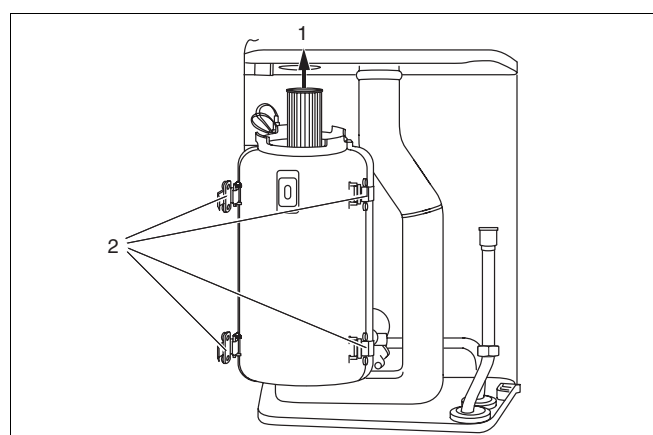

Fig. 47 Remove burner and release retaining clips
- Remove burner by pulling upwards through the opening (fig. 47, item 1) and release the four retaining clips (fig. 47, item 2).